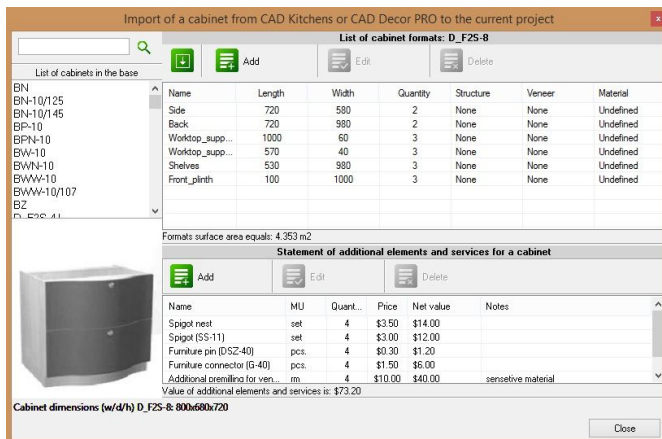

Fig. 47 – importing a single cabinet from the CAD Kitchens database
- 5)  **Import a single cabinet** – opens the window called **‘Import of a cabinet from CAD Kitchens or CAD Decor PRO to the current project’** (Fig. 47), in which you can get formats of components of a chosen cabinet to the cut list by indicating the cabinet on the list and clicking **‘Import the cabinet to the cut list’**. The cabinet can be imported only after defining its formats first by using a function **‘Edit cabinet parameters’** in the **‘Database’** tab of the top menu. For more information please see point 3.4. on page 16 and Chapter 7 on page 42.